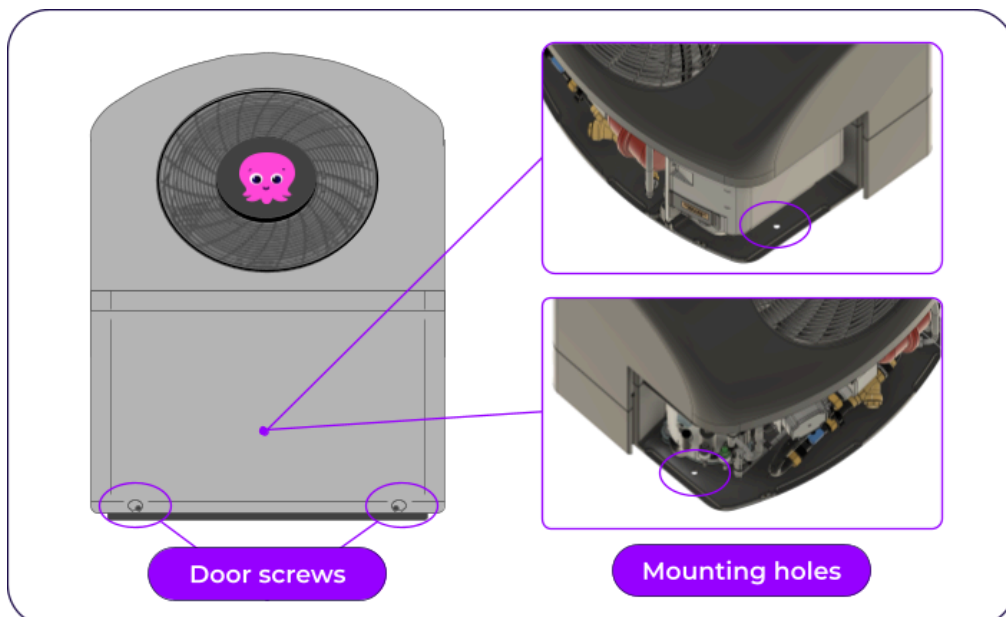

Figure 8.1 - Mounting Holes
7. Remove Door from the unit via the screws located at the bottom. *See Figure 8.1.*